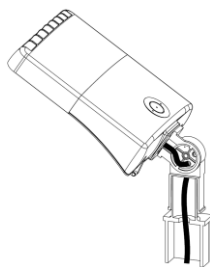

Figure 2
3. Align with the top of the pole with the slip fitter mount. (see Figure 2)
2. Remove the pole mounting arm cover and gasket. (see Figure 2)